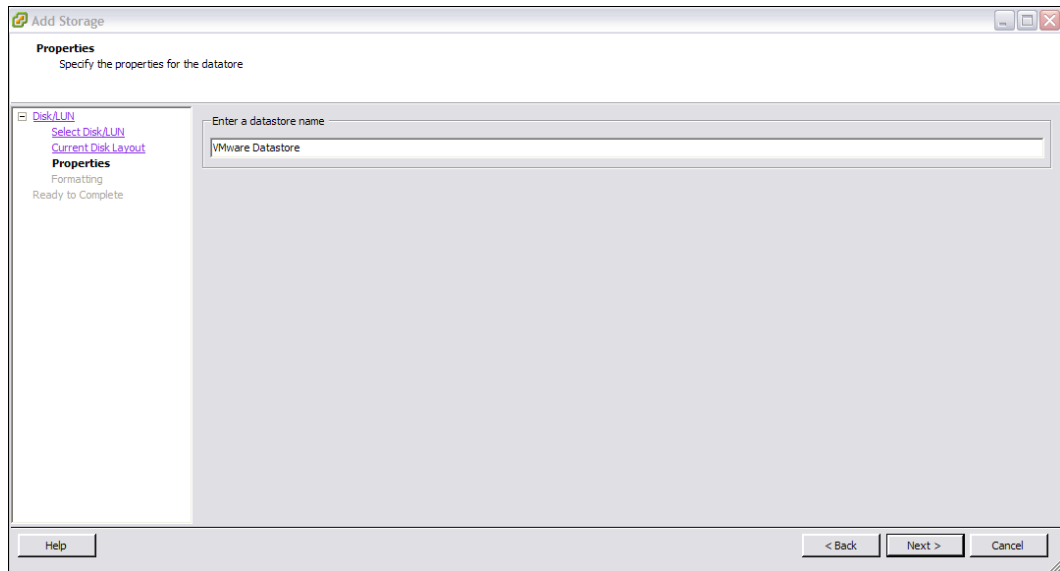

Figure 22-60 Datastore name
- As shown in Figure 22-60, type a descriptive name for the Datastore, for example, VMware\_Datastore, and click **Next**.